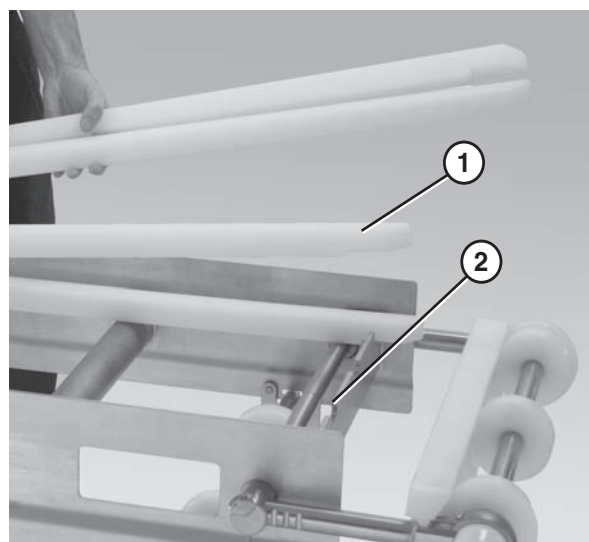

Figure 34
1. Position the wear strips (**Figure 34, item 1**) on the frame.
2. Make sure the wear strips are situated securely in the frame slots (**Figure 34, item 2**).